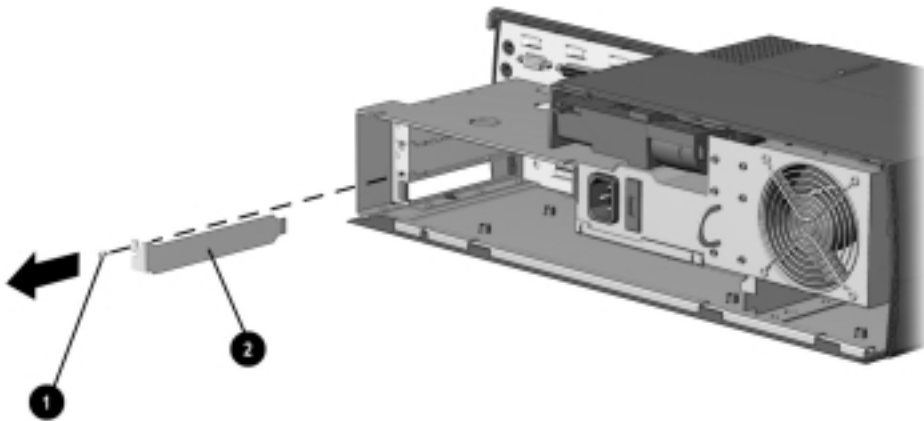

Figure 5-10. Removing the Expansion Slot Cover
4. Remove the screw ❶ that secures the expansion slot cover to the base cover (Figure 5-10).